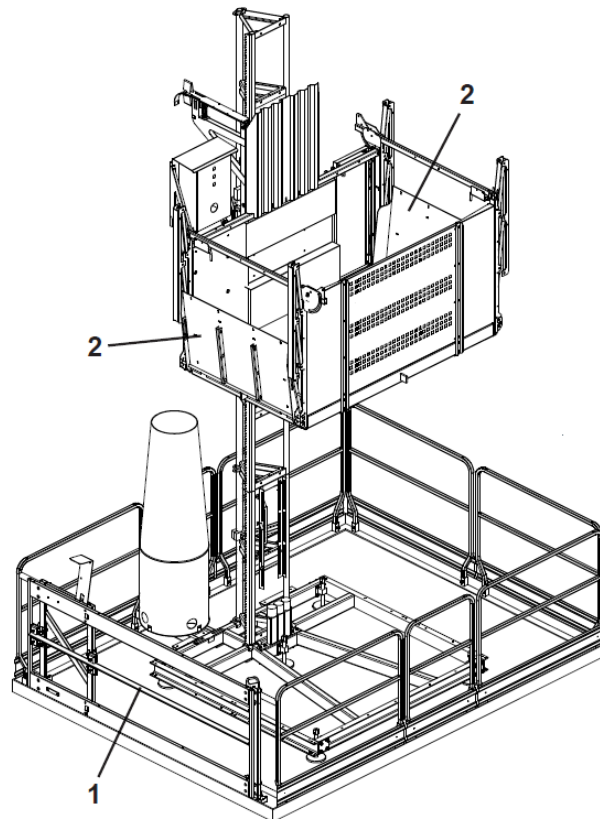

Figure 8.2
The base enclosure doors and the ramps are shown in figure 8.2; the door (1) allows access to the base enclosure and the ramps (2) allows access to the loading unit.